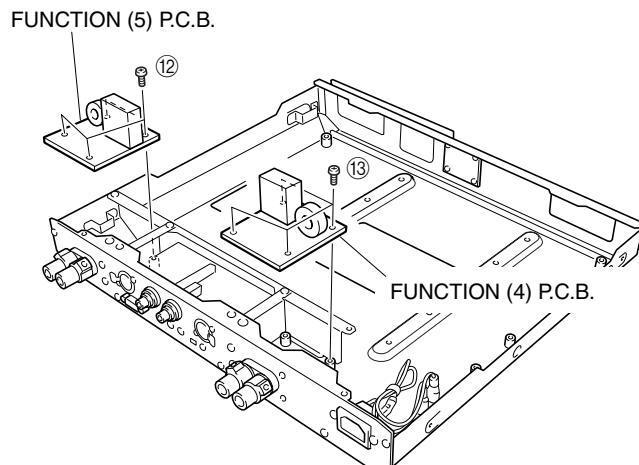

Fig. 5
7. Removal of FUNCTION (5) P.C.B.
- Remove 4 screws (⑫). (Fig. 5)
- Remove the FUNCTION (5) P.C.B. upward.
8. Removal of FUNCTION (4) P.C.B.
- Remove 4 screws (⑬). (Fig. 5)
- Remove the FUNCTION (4) P.C.B. upward.